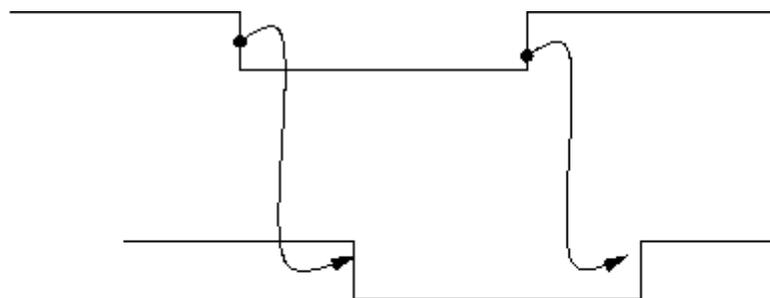

Figure 4: Cause of Signal Change
- Indicate situations where an edge on one signal causes a change in another signal, as shown in Figure 4.